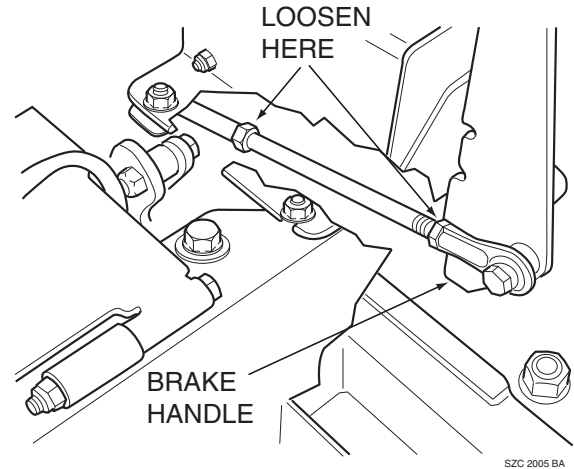

Figure 6-1. Brake Adjustment
3. Measure the distance between frame and the top of the actuator bar. The distance should be 1-1/4". If this measurement is not at the specified 1-1/4", adjust the brake control rod. Adjust by loosening the jam nuts at both ends of the brake control rod and turning the rod until the proper distance is achieved. Tighten the jam nuts. (See Figure 6-1).